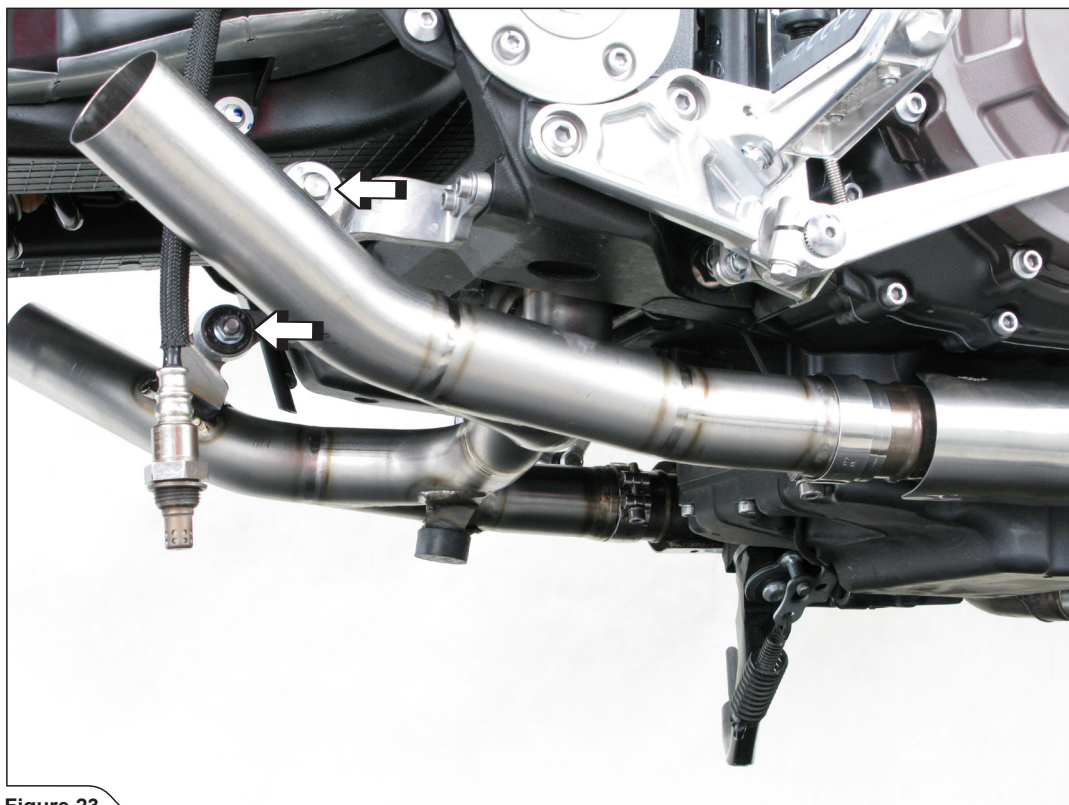

Figure 23
3. **For OPEN SLIP-ON only:** slide the collector onto the stock header tubes and hand tighten the marked bolts using stock bolts and Akrapovič nuts (**Figure 23**).